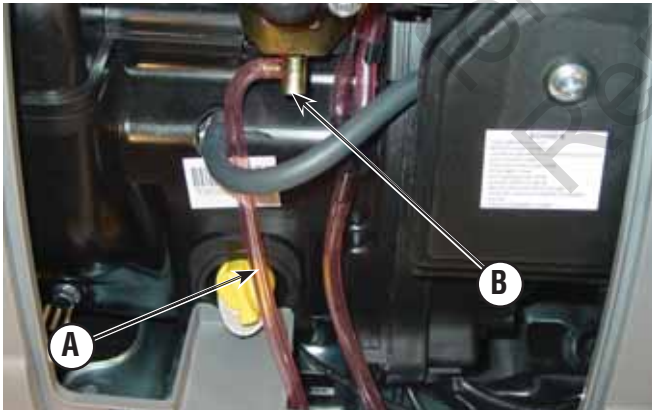

Figure 27
2. Inspect carburetor fuel drain hose (A, Figure 27). If there is a leak, check to make sure the drain screw (B) is tight and secured correctly.